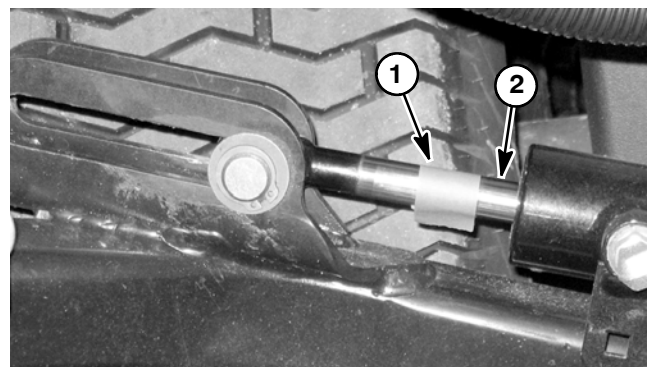

Figure 46
8. Leave the machine parked for two (2) hours and monitor the lift cylinder. The weight of the cutting unit may cause the lift cylinder to gradually extend. Use the tape location to determine lift cylinder rod movement (Fig. 46).
A. If lift cylinder rod movement is less than 1.250" (31.7 mm) after two (2) hours, make sure that the cutting unit has not settled to the ground. If the cutting unit is still suspended after two (2) hours and lift cylinder rod movement is less than 1.250" (31.7 mm), consider that the lift cylinder is in good condition. A cylinder in good, usable condition will show minimal movement.
B. Rod movement in excess of 1.250" (31.7 mm) after two (2) hours indicates that the lift cylinder may have internal seal damage or excessive wear. Remove and inspect the lift cylinder (see Lift Cylinder and Lift Cylinder Service in the Service and Repairs section of this chapter).